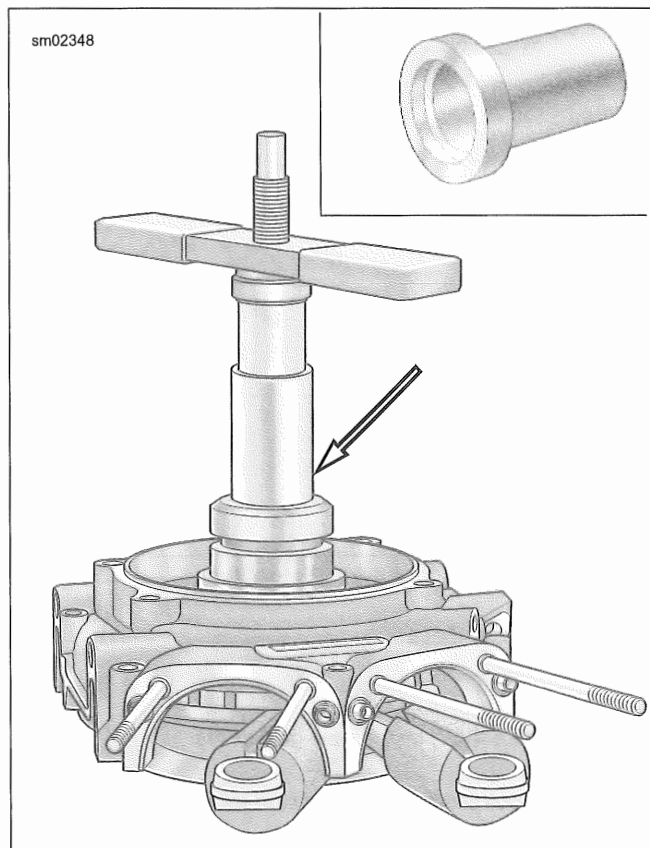

Figure 4-64. Sprocket Shaft Oil Seal Installer
9. See Figure 4-64. Install **new** sprocket shaft oil seal using components from the following tools.